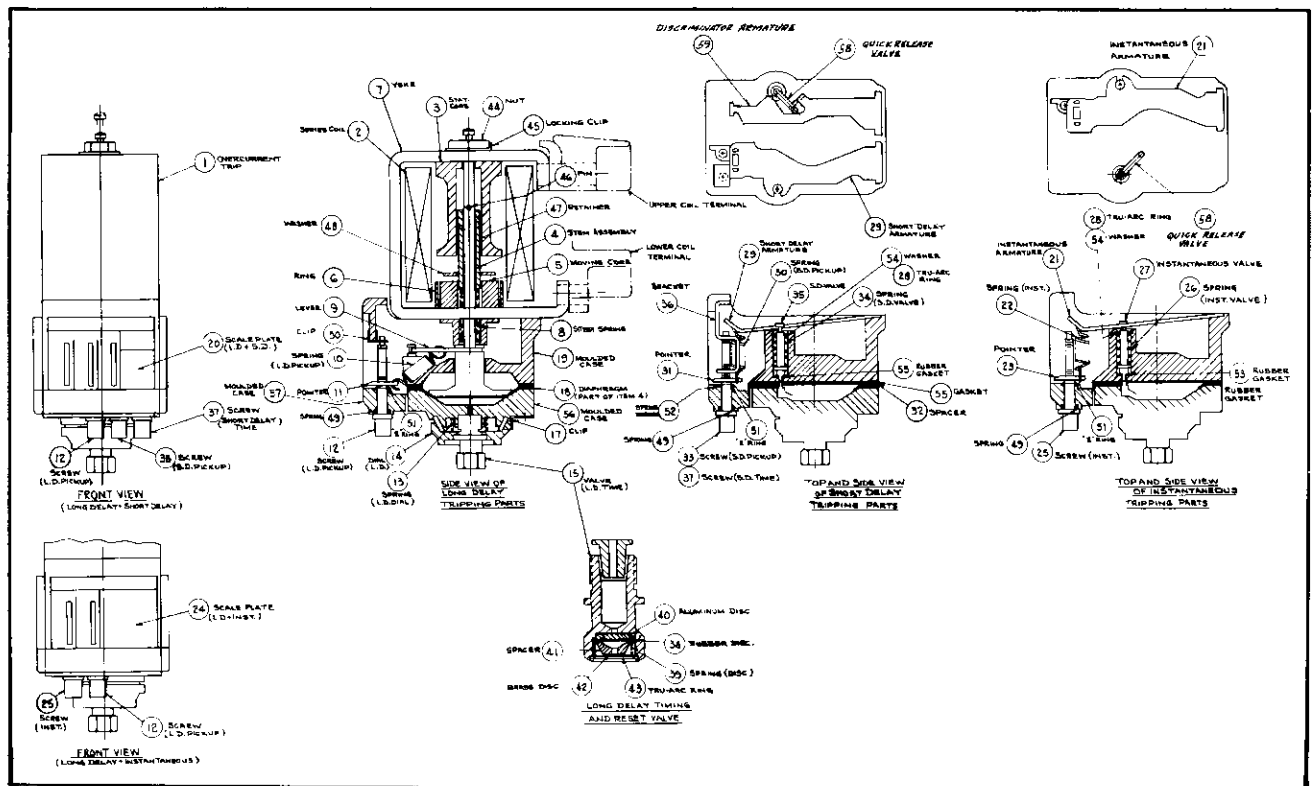
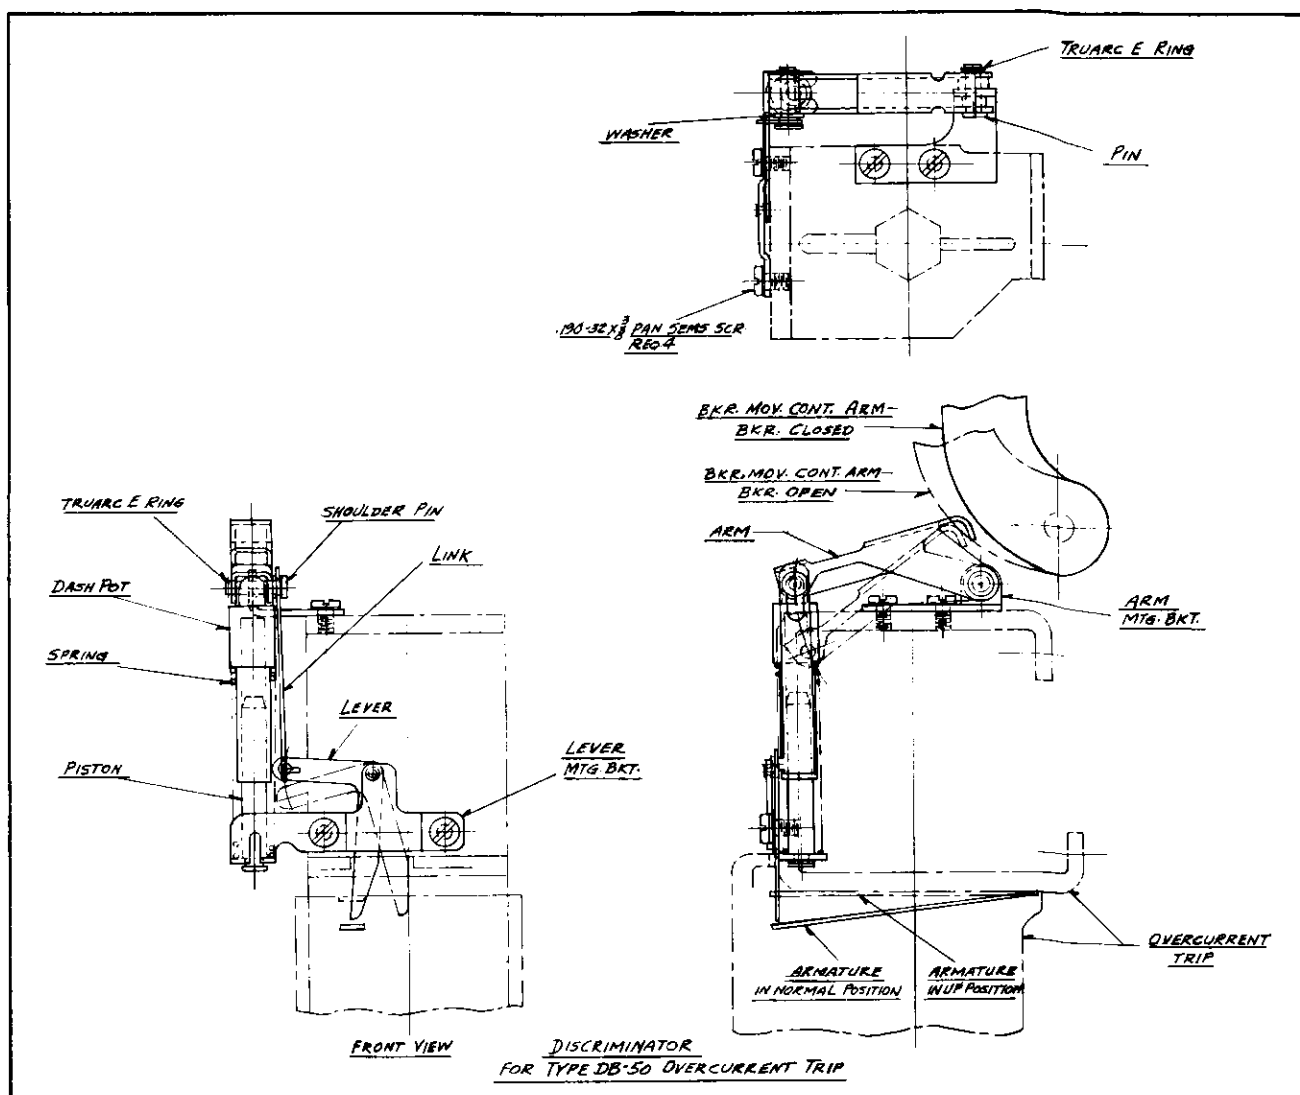

Fig. 6 - Cross-Sectional View of Series Overcurrent Tripping Device with Long Delay and Instantaneous Elements
Fig. 13 - Discriminator for Tripping Device
To manually check the overtravel refer to Fig. 6. The air delay device can be made inoperative by opening the instantaneous valve (or the short delay valve in the case of selective type tripping devices). The valve is opened by lifting the instantaneous (or short delay) armature. A slot is provided in the side of the molded case and a small rod approximately 1/16 diameter can be entered through the side of the case and used as a lever to lift the armature. After the valve is blocked open, the trip plunger
As seen from the sectional view Figure 6, the magnet frame and coil assembly consists of a yoke, a coil, a stationary and moving core together with their necessary insulation.
chamber T by the various valves H and K. When the diaphragm has reached approximately 60 percent of its travel, a quick release valve (shown in Fig. 6) is mechanically opened. This quick release feature permits the full force of the magnet to be used for tripping the breaker after the timing cycle is completed. At higher currents when the attraction between the moving core C and the stationary core B is greater than the load on the spring inside of the moving core, the moving core will compress the spring and travel independently of the tripping stem F. This spring insures a constant force pattern acting on the diaphragm E. The reset valve is shown as G.
B. A quick release valve (shown in Fig. 6-short delay tripping parts) which functions as described for dual overcurrent tripping device.
C. Discriminator armature, Fig. 6.
The discriminator operating linkage, Fig. 13 and the discriminator armature, Fig. 6 are used on the selective overcurrent tripping device to make the device behave as an instantaneous type tripping device while the breaker is being closed and for approximately 0.5 seconds after closing. During this period, the discriminator armature is free to lift the quick release valve and permit instantaneous tripping, if the current is greater than the discriminator armature pick-up setting. If the current does not rise above this value, the breaker remains closed and the discriminator linkage assumes a position which makes the discriminator armature inoperable and restores the selective tripping feature to the tripping device.
The long delay pick-up can be adjusted by means of P, Figure 10, also shown in Figure 6. The unit has been calibrated and the calibration plate marked at five settings, namely 80, 100, 120, 140 and 160 percent of the coil rating. The pick-up was placed on the 100 percent setting before shipment. A different setting can be obtained by carefully turning the adjusting knob with the help of a small screwdriver inserted in the slots for that purpose.
The long delay can be adjusted by means of the long time adjusting dial S, Figure 10, also shown in Figure 6. The dial adjustment is limited to slightly less than one turn. Two points have been calibrated at the factory and are indicated by white marks on the outer edge of the dial. The dial has markings from 1 to 10. When the higher-numbered white mark on the dial coincides with the white indicator on the front of the lower case, the tripping time will be the higher long delay value shown in seconds on the scale plate. Conversely, when the lower-numbered white mark on the dial coincides with the white indicator on the front of the lower case, the tripping time will be the lower long delay value shown in seconds on the scale plate. These tripping times are calibrated with currents which are 600 percent of the coil rating applied. The dial settings are scribed on the scale plate under long delay dial setting heading.
The instantaneous pick-up can be adjusted by means of knob N, Figure 10, also shown in Figure 6. The instantaneous pick-up has been calibrated at 8 and 12 times or 5 and 10 times the coil rating at the factory. The adjusting knob can be turned carefully with the help of a small screwdriver inserted in the slots for that purpose, if a different setting is desired.